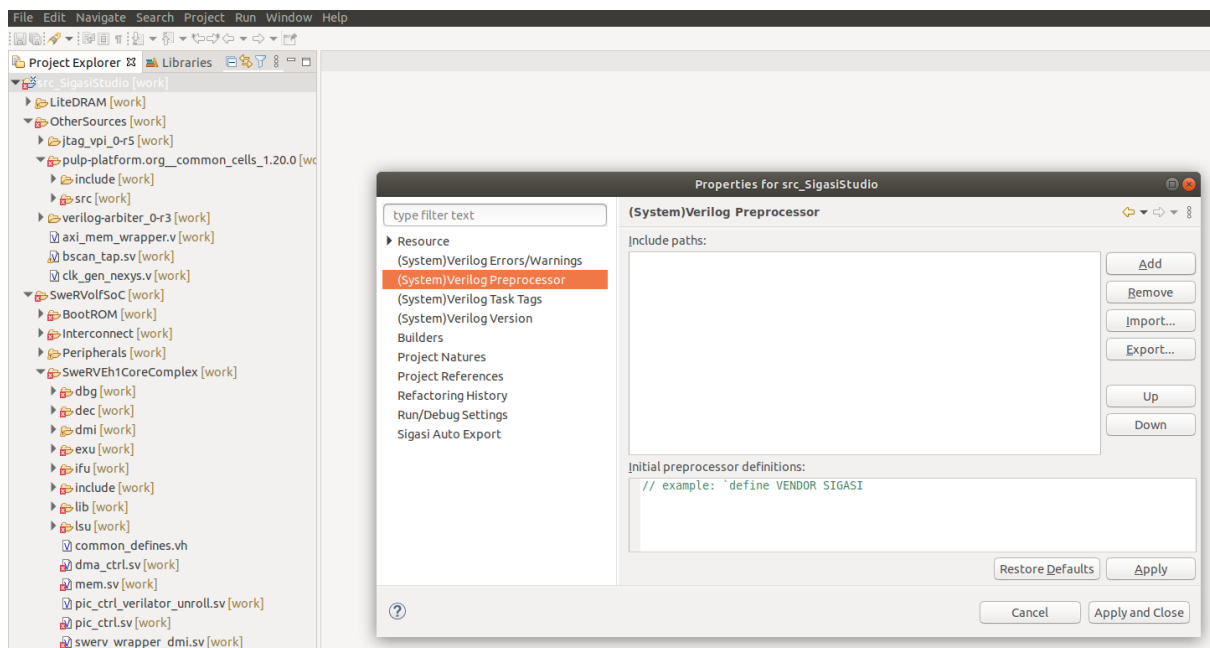

Figure 6. Project properties.
- In the Project Explorer, right-click on the *src_SigasiStudio* project and open the Properties window (see Figure 6).
7. In the Properties window (Figure 6) select the “(System)Verilog Preprocessor” and add the following include paths (by clicking on the Add button on the right):